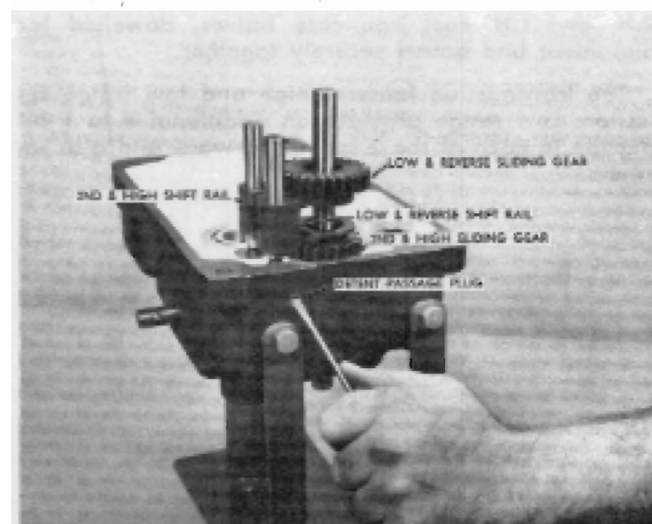

FIGURE 4
15. With a screw driver or other suitable tool remove the plug from the detent passage, as shown in Figure 4.